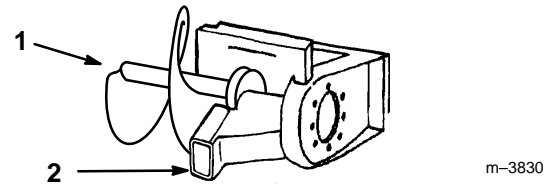

Figure 4
3. Remove the bolt securing the spoils auger and remove the auger (Fig. 4).
4. Remove the wrench from the the side of the adjusting chamber (Fig. 4).